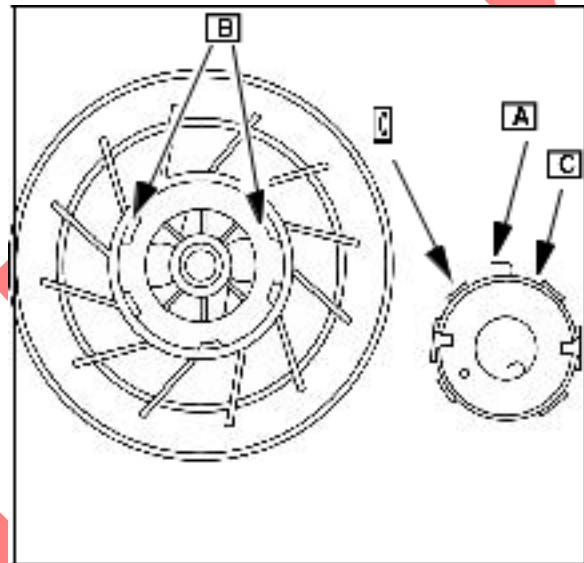

Fig. 16
Place spring and cup in pulley, with outer end of spring (A) between two wide spaced lugs (B) in pulley and spring cup projections (C) Fig. 16) next to the two wide spaced lugs.